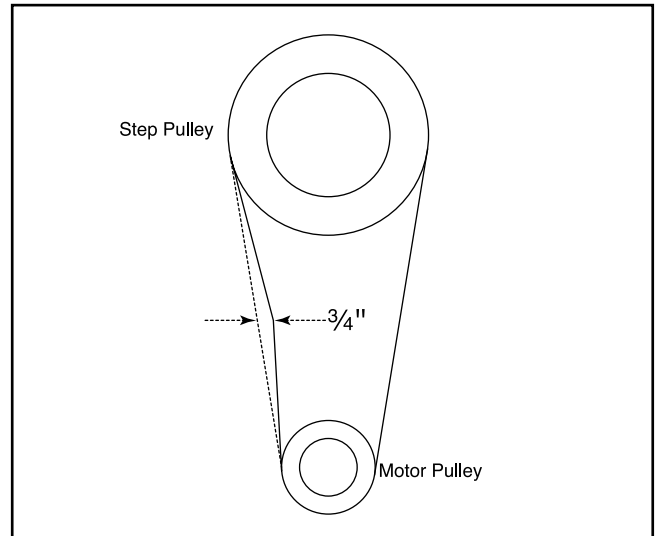

Figure 9B. Pulley deflection w/moderate pressure.
2. Slide the motor up or down to achieve proper V-belt tension. You should be able to deflect the V-belt about $\frac{3}{4}$ " at its midpoint (see **Figure 9B**) using moderate finger pressure. Be careful not to change the lateral position of the motor and move the pulleys out of alignment. Tighten the motor mount bolts.